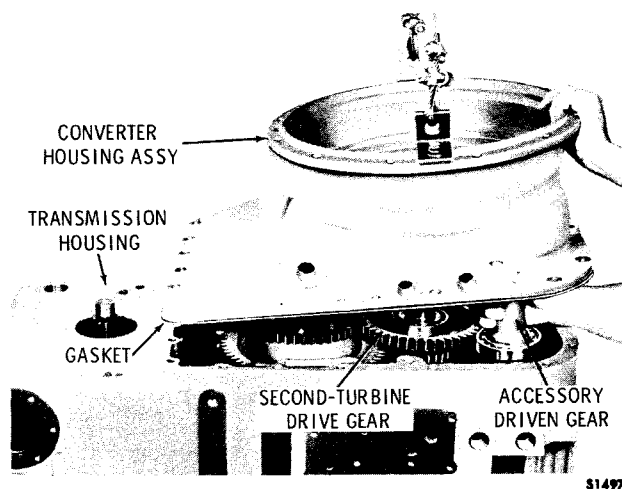

Fig. 7-38. Installing torque converter housing assembly
(1) Install the gasket onto the converter housing splitline. Use oil-soluble grease to retain the gasket during installation of the housing (fig. 7-38). Attach a sling to the housing front flange and, while lowering the converter housing onto the transmission housing, guide the accessory driven gear past the second-turbine drive gear. Seat the converter housing and remove the sling.
(2) Retain the converter housing with one 7/16-14 x 2 3/4-inch bolt 44 (B, fold-out 6), twenty three 7/16-14 x 1 3/8-inch bolts 3, twenty four 7/16-inch flatwashers 5 and 42, and twenty four 7/16-inch lockwashers 4 and 43. Tighten the bolts to 42 to 50 pound feet torque.